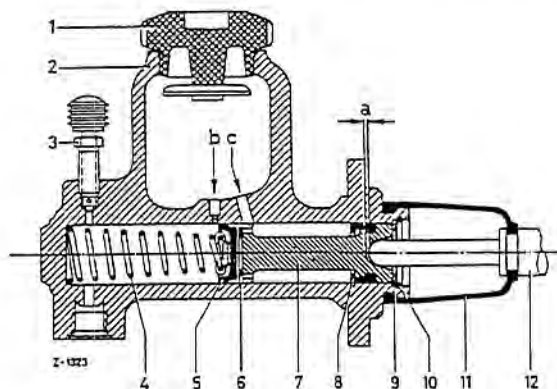

Fig. 29-3/2
The 1st version of the supply cylinder is provided with a tilting valve (4) and has no compensating part. The piston (8) has a grooved cup (9) (Fig. 29-3/1).
The length L of the piston rod is 46 mm (Fig. 29-3/5).